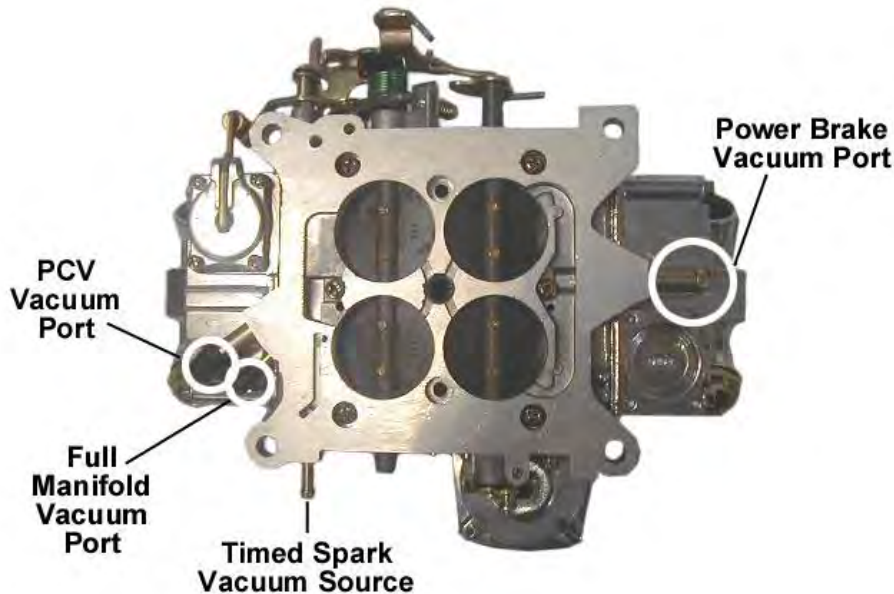

Figure 7
8. Connect the power brake hose to the fitting as shown in Figure 7.
1. Attach the vacuum gauge to a manifold vacuum port on the throttle body (Figure 7).